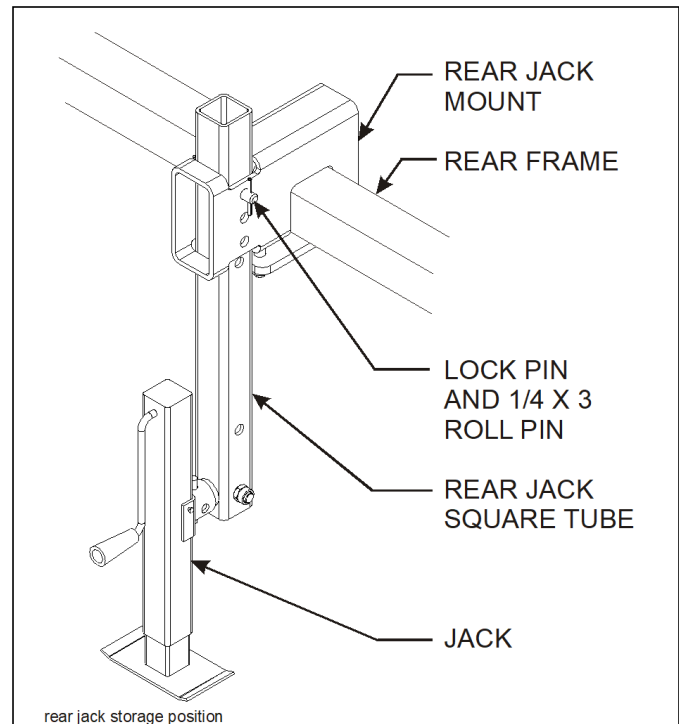

Figure 4-18: Rear Jack Transport Position
3. Slide the rear jack tube from transport position and into slot from bottom of rear jack mount. Pin jack tube in position. Attach jack to rear jack tube and pin in position. Crank jack until the rear of the machine is supported (**See Figure 4-18.**)